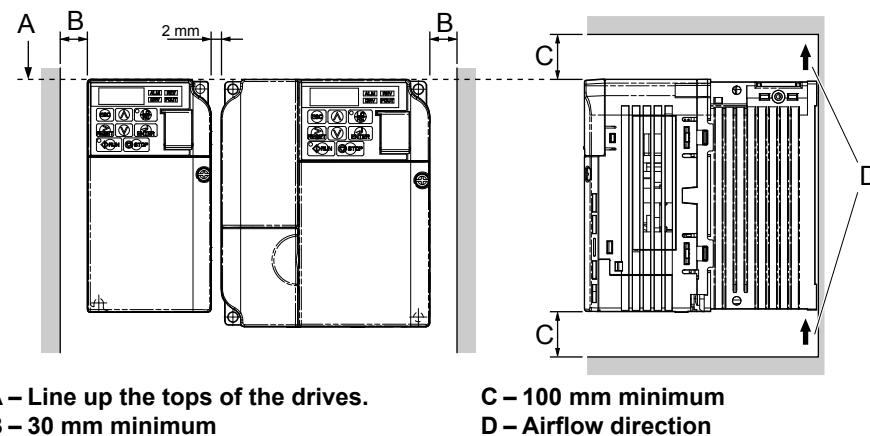

**Figure 2.2 Correct Installation Spacing**
**Figure 2.2** shows the required installation spacing to maintain sufficient space for airflow and wiring. Install the heatsink against a closed surface to avoid diverting cooling air around the heatsink.
When installing multiple drives into the same enclosure panel, mount the drives according to **Figure 2.2**. When mounting drives with a minimum side-by-side clearance of 2 mm according to **Figure 2.3**, derating must be considered and parameter L8-35 must be set. **Refer to Parameter List on page 329.**